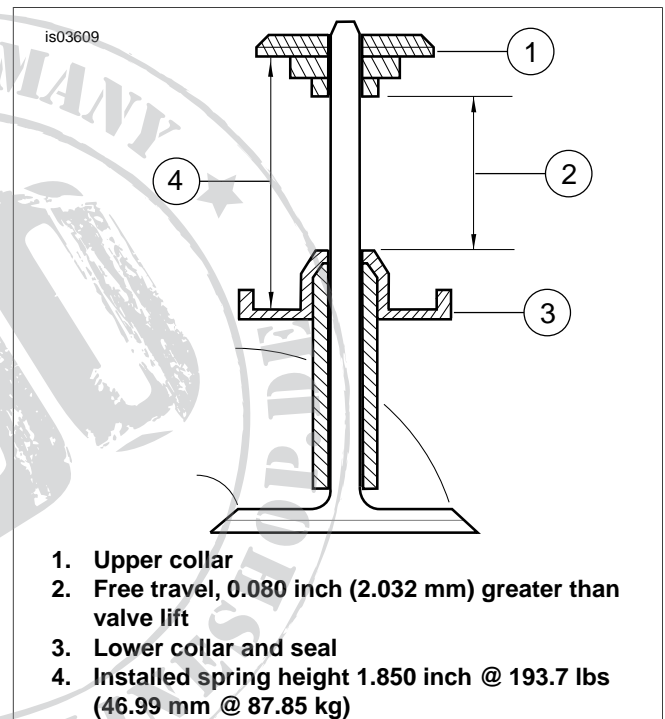

Figure 1. Installed Spring Height
7. See Figure 1. Using the springs, collars and keys from this kit, assemble cylinder heads following Service Manual instructions.